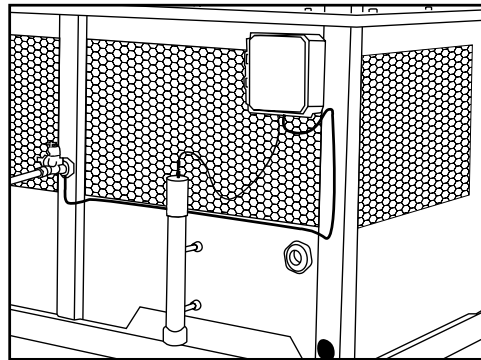
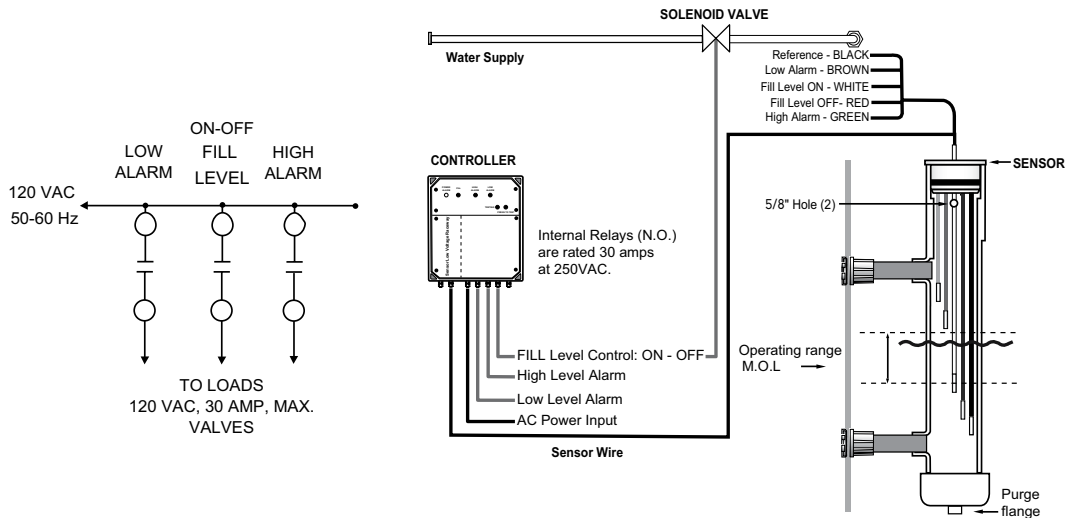

Figure A-150: Electric water level control system
Figure A-151: Electrical Connections & Water Level Control Parts
Electric water level control system is an optional accessory offered by REYMSA includes water level controller, stilling chamber, and solenoid valve for water make up (see Figure A-150 & Figure A-151).
2. The sensor assembly (Figure A-151) must be made so that the end of the PVC pipe is below the minimum level of water to be maintained.